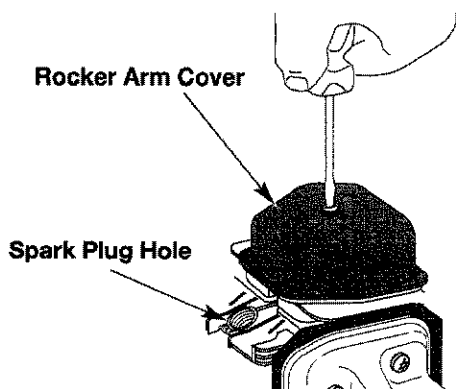

Fig. 54
- Clean dirt from around the rocker arm cover. Remove the screw holding the rocker arm cover with a large flat blade screwdriver or Torx T25 bit (Fig. 54). Remove the rocker arm cover and gasket.
- The piston is at the top of its travel while looking in the spark plug hole (Fig. 54).